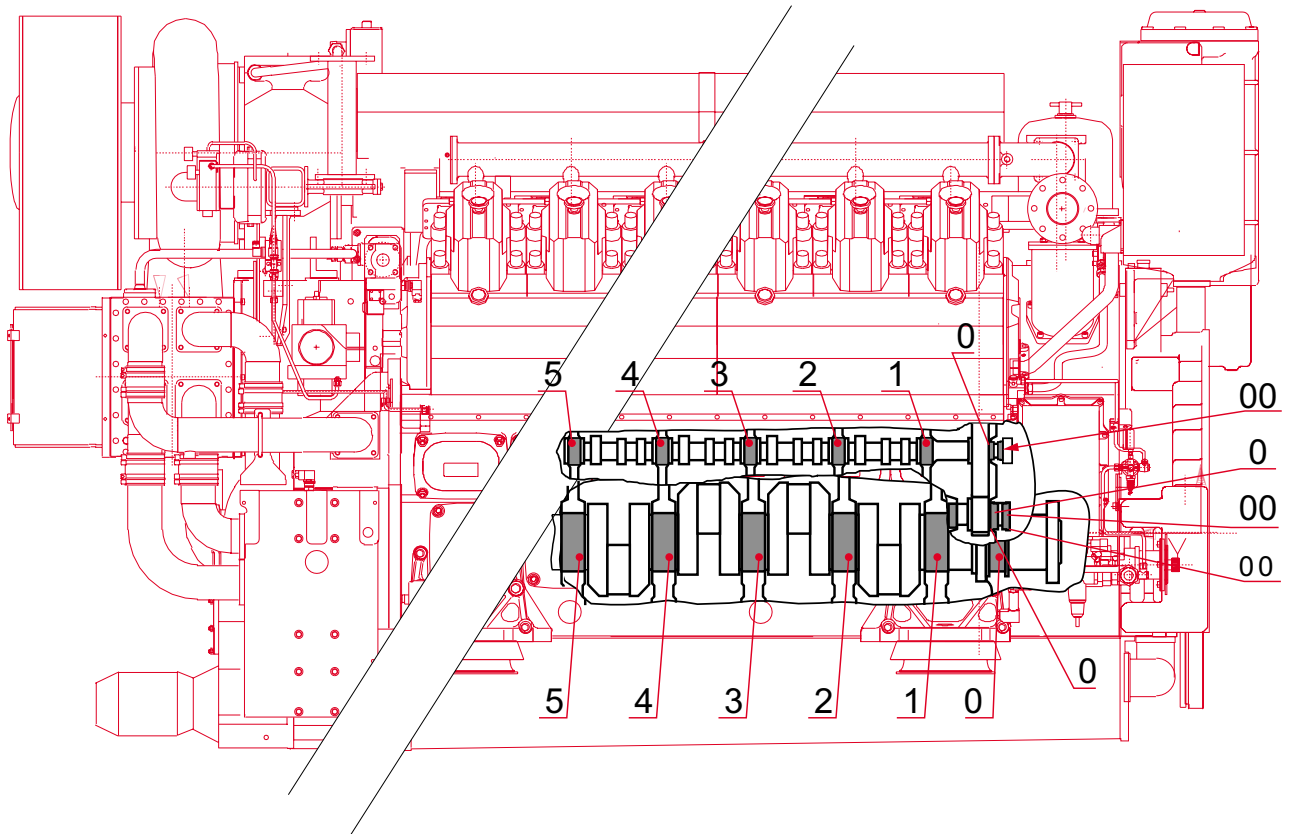

Fig. 00-2
00.3.1. Designation of bearings (see Fig. 00-2)